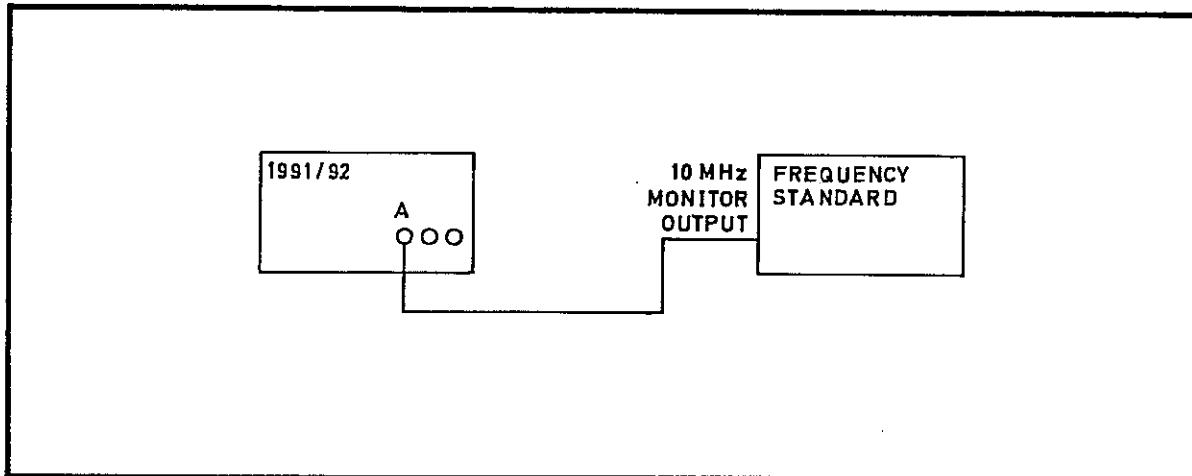

Fig 7.26 Connections for Internal Frequency Standard Adjustment
- 64 (1) Switch on the 1991/92. Select **FREQ A** and verify that 00000000 is displayed. If the Option 04B (9423) frequency standard is fitted, press the **RESOLUTION** ↑ key until 00000000 is displayed.
- (2) Connect the test equipment as shown in Fig 7.26.